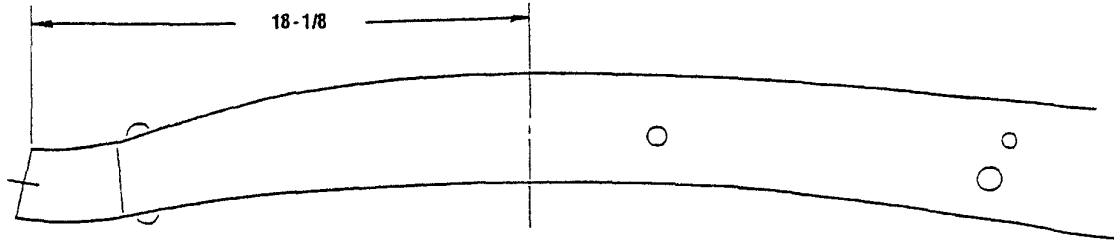

Figure 1
4. It is time to locate the axle centerline. The front section of the frame should be boxed at this point, from approximately 3' forward of the axle centerline to a minimum of 18' back from the axle centerline. For overall frame strength, it is recommended that the frame be boxed to the crossmember. Use 1/8 to 3/16 steel. Box the frame to an overall rail width of 2-3/8 inches, including the boxing plates in the area of the new crossmember. Most cars have already had the frame boxed from a previous engine or suspension swap. If not, box the frame at this point. Next, scribe a line around the frame rails, at 18-1/8 inches from the front of the frame, as shown in Figure 1. This is the axle centerline. Due to the different models and midyear changes in the Chevy frames through those years, we suggest that you temporarily place a front fender on the frame and stand a wheel and tire in place in the center of the wheel opening. By laying a bar or broom handle through the wheel centerhole, you can verify or adjust the correct axle centerline. Remember the basic rule above.